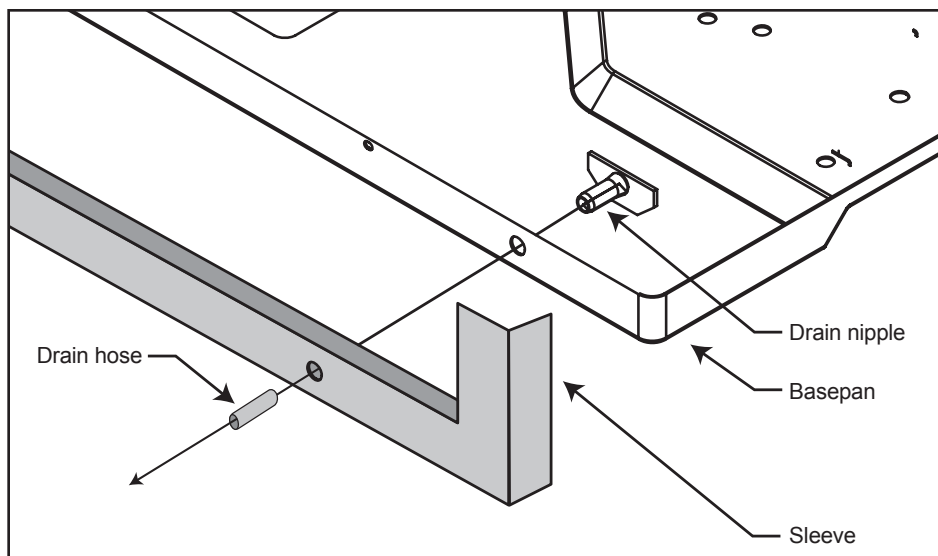

Figure 12
**STEP 1** Find the drain plate on the rear of the basepan and remove it. (See Figure 12).